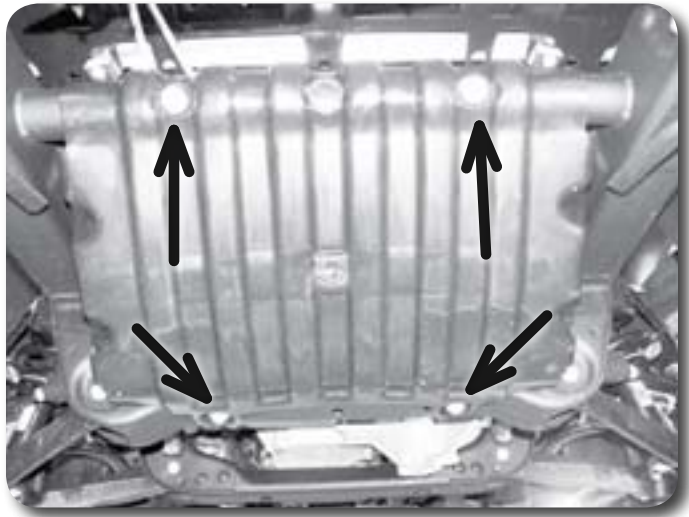

Figure 12
17. If equipped, remove the four bolts mounting the front skid plate to the frame **Figure 12**. Remove the skid plate from the vehicle. Save skid plate and bolts.